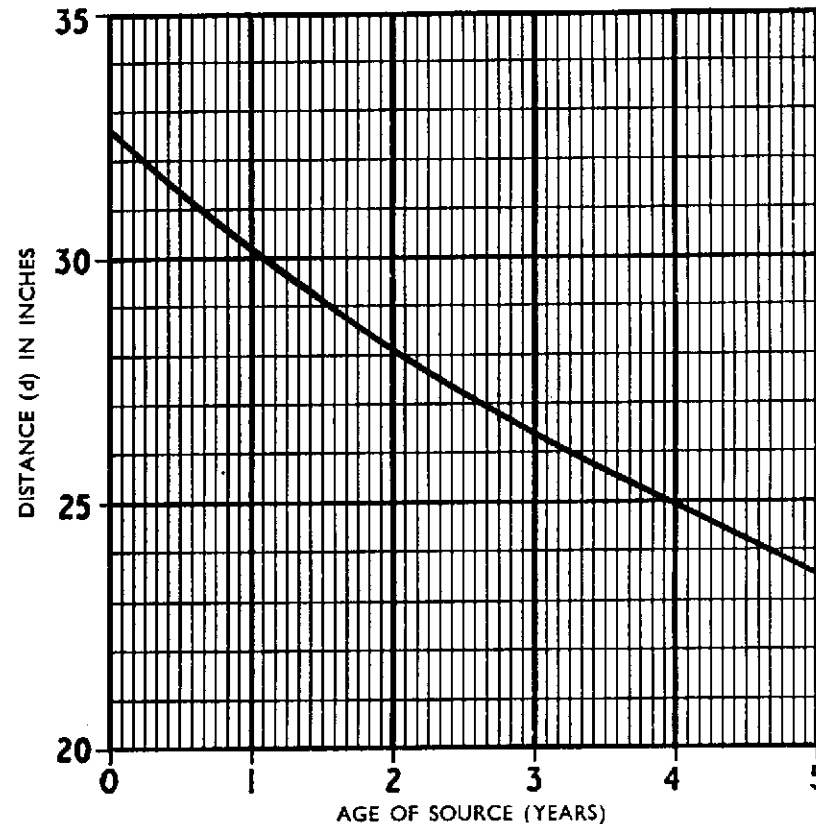

Fig. 5
(3) To obtain the distance (d), first ascertain the age of the source from the date of manufacture painted on the side of the container (if month not quoted, assume to be June) and then find the corresponding point of intersection on the graph at fig. 5.